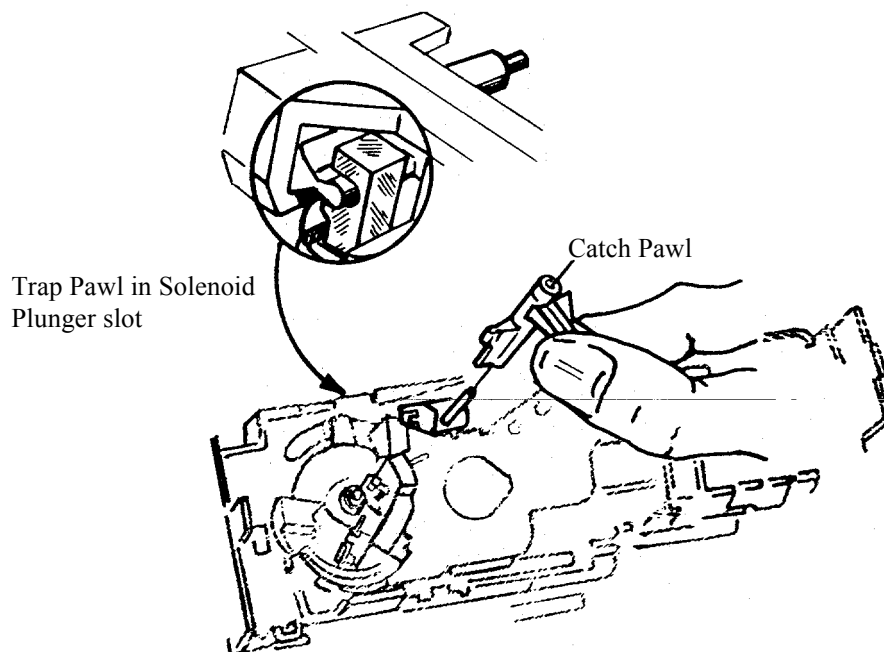

Figure 4-19g Shutter Assembly Components
- f. Replace Catch Pawl on its pivot pin. Be sure upper tab is engaged in slotted end of plunger of Solenoid 2 (Figure 4-19g).